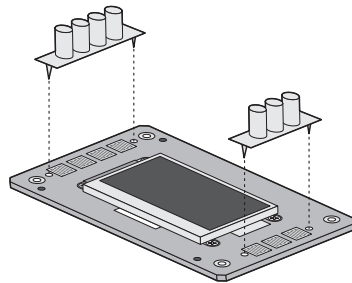

FIGURE 19: Removing/replacing the UIB buttons
6. **If you are removing the UIB to replace it with a new board, remove the UIB buttons from the old UIB (see Figure 19 on page 62).**